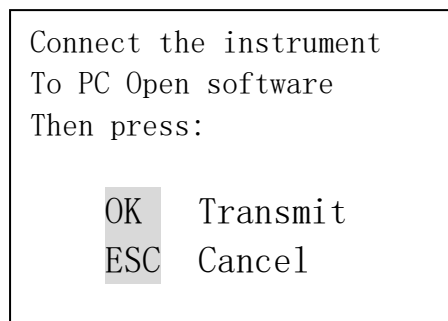

Figure 1.11 Data Output Interface
6. Press **Enter Key** of the instrument to display progress in the interface shown in Figure 1.11.